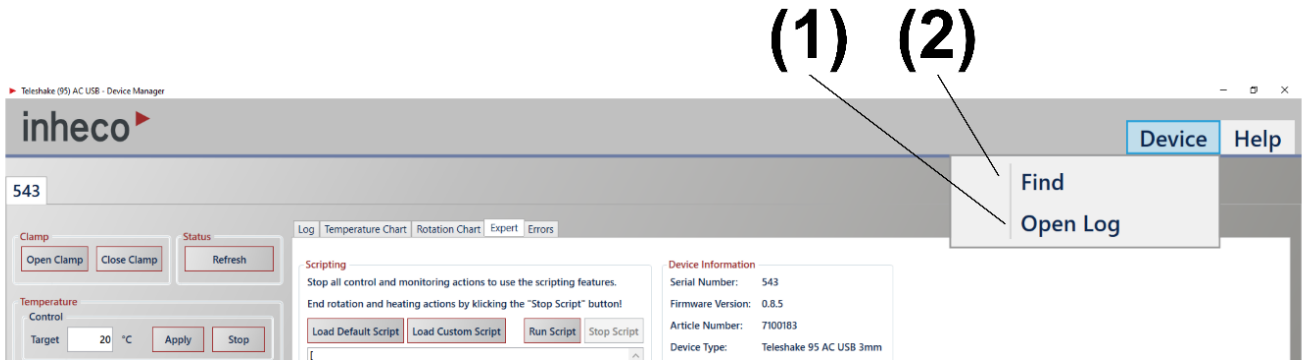

Figure 6: Device menu to find newly connected devices (1) and to open the log file (2).
Start the rotation by entering an RPM value (representing revolutions per minute) in the “Target” (1) field followed by clicking the “Apply” (2) button to transmit the value to the device (Figure 6). This action can only be executed, if the device is connected to a proper DC power supply with a voltage level of +24 V (±10%) and a maximum current of at least 6.3 A.